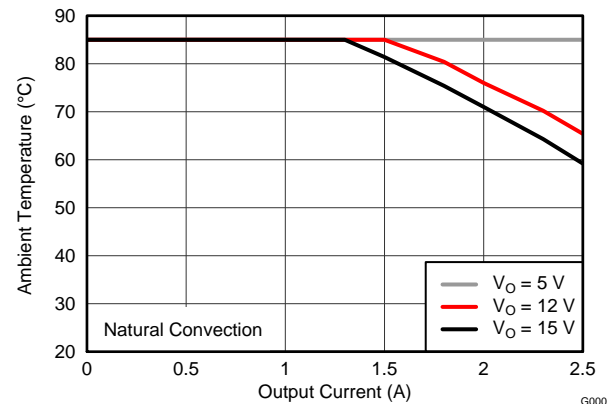

Figure 23. Safe Operating Area
- (3) The temperature derating curves represent the conditions at which internal components are at or below the manufacturer's maximum operating temperatures. Derating limits apply to devices soldered directly to a 100 mm × 100 mm double-sided PCB with 1 oz. copper. Applies to Figure 23.